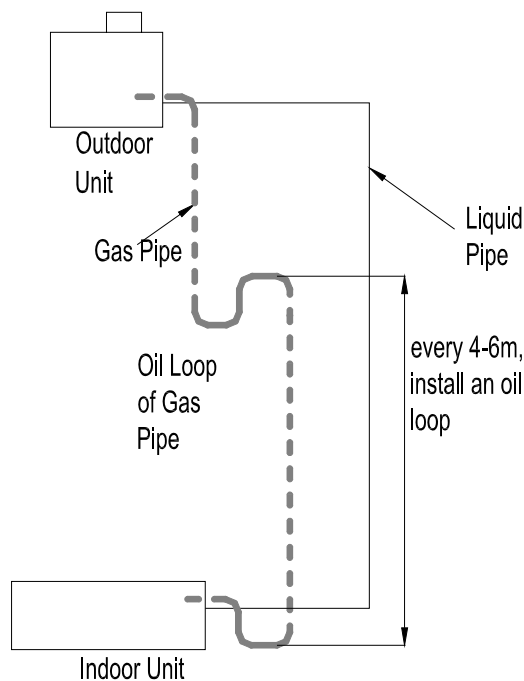

Figure 3-2-1
- ◆ When heights of indoor and outdoor units are different, please refer to Figure 3-2-1 for layout of pipeline.